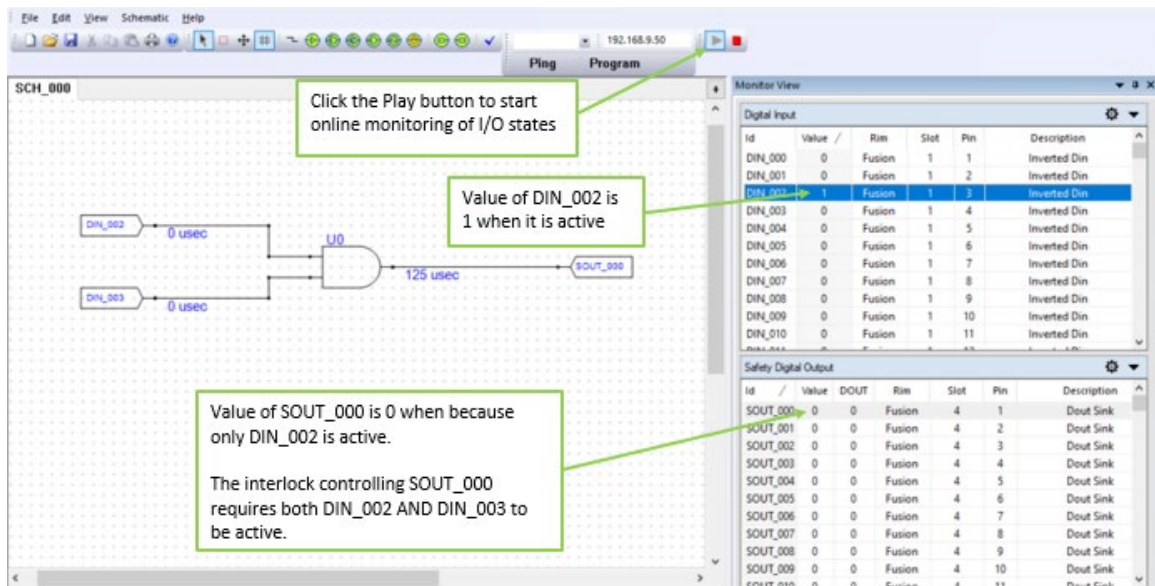

Figure 37 - Testing DIN_002
a) Test DIN_002 (See Figure 37 - Testing DIN_002).